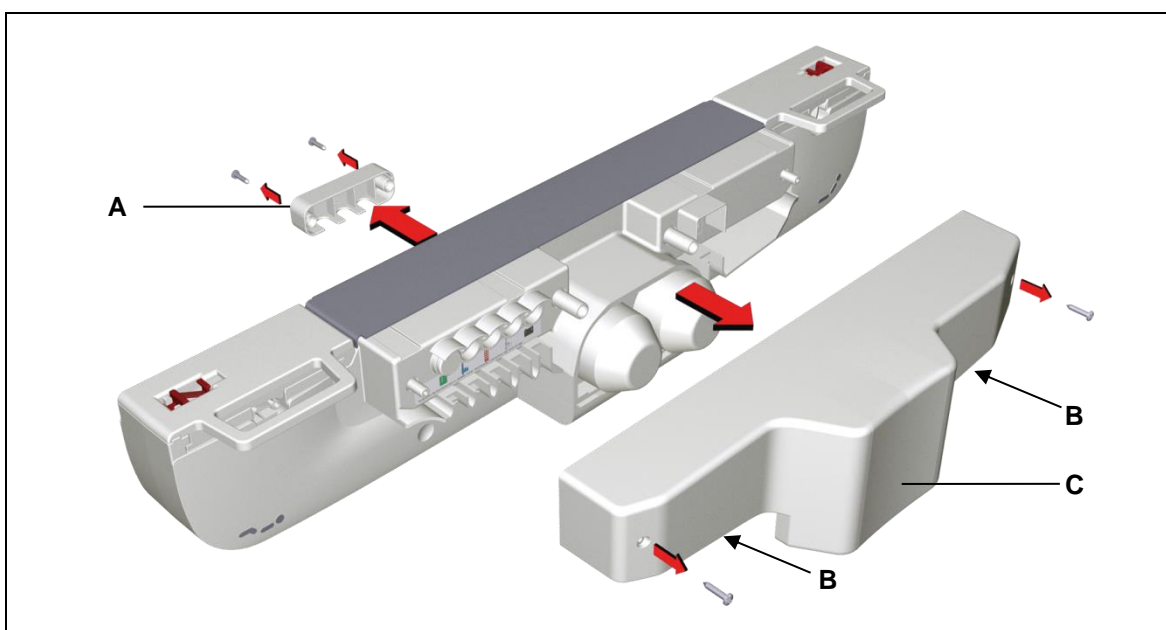

Figure 12 Removing the motor cap
- 3 Loosen the screws on the cover (shown by A in Figure 12) at the rear of the drive and remove the cover.